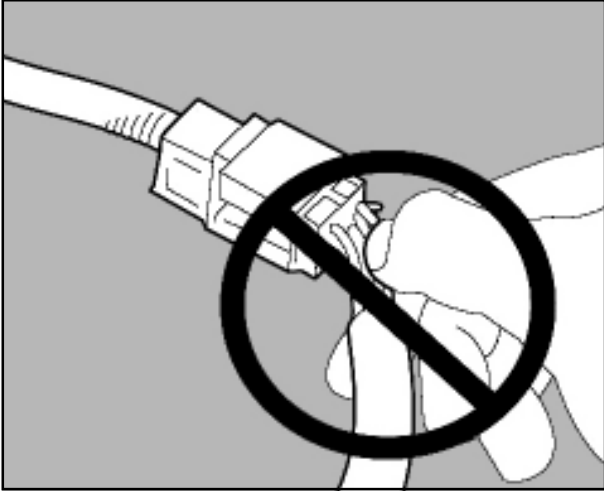

Fig. 9
- Ensure proper connection between the terminal to the wire. Rectify the loose connection by repairing / replacing the wire harness (Fig. 9)